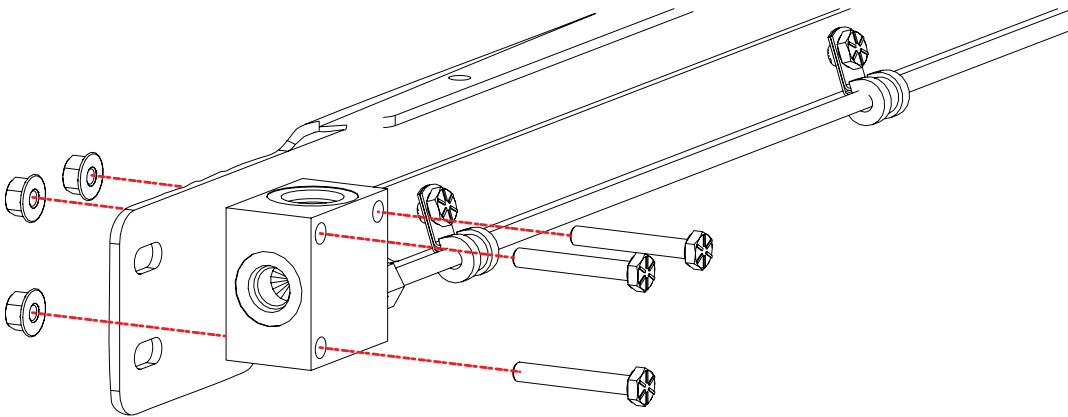

Figure 9: Remove and retain the three bolts and nuts that secure the PRD to the rail.
4. Remove and retain the (3) bolts and nuts that secure the PRD to the rail (Figure 9).